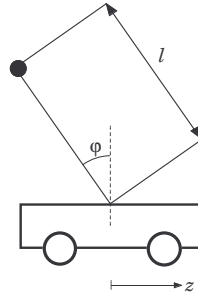

Figure 7.1 Inverted pendulum in exercise 7.4.
7.4 When walking, the body is kept in upright position by some regulatory system. This balancing of the body can be simplified to the problem of controlling an inverted pendulum positioned on a cart, by moving the cart. In Fig. 7.1, a schematic of this inverted pendulum is given.